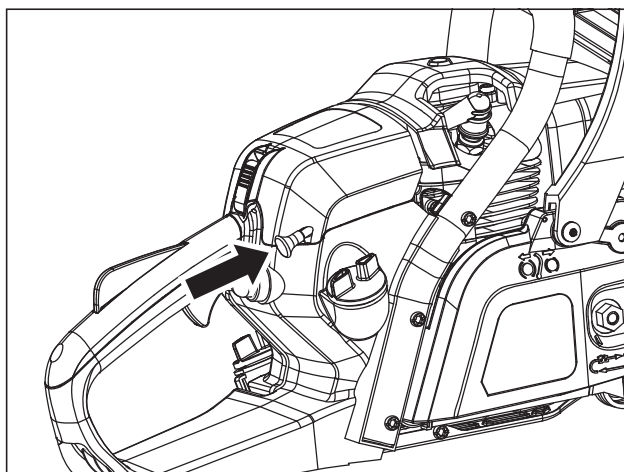

Fig. 9
5. Push choke knob to RUN position (Fig.9).